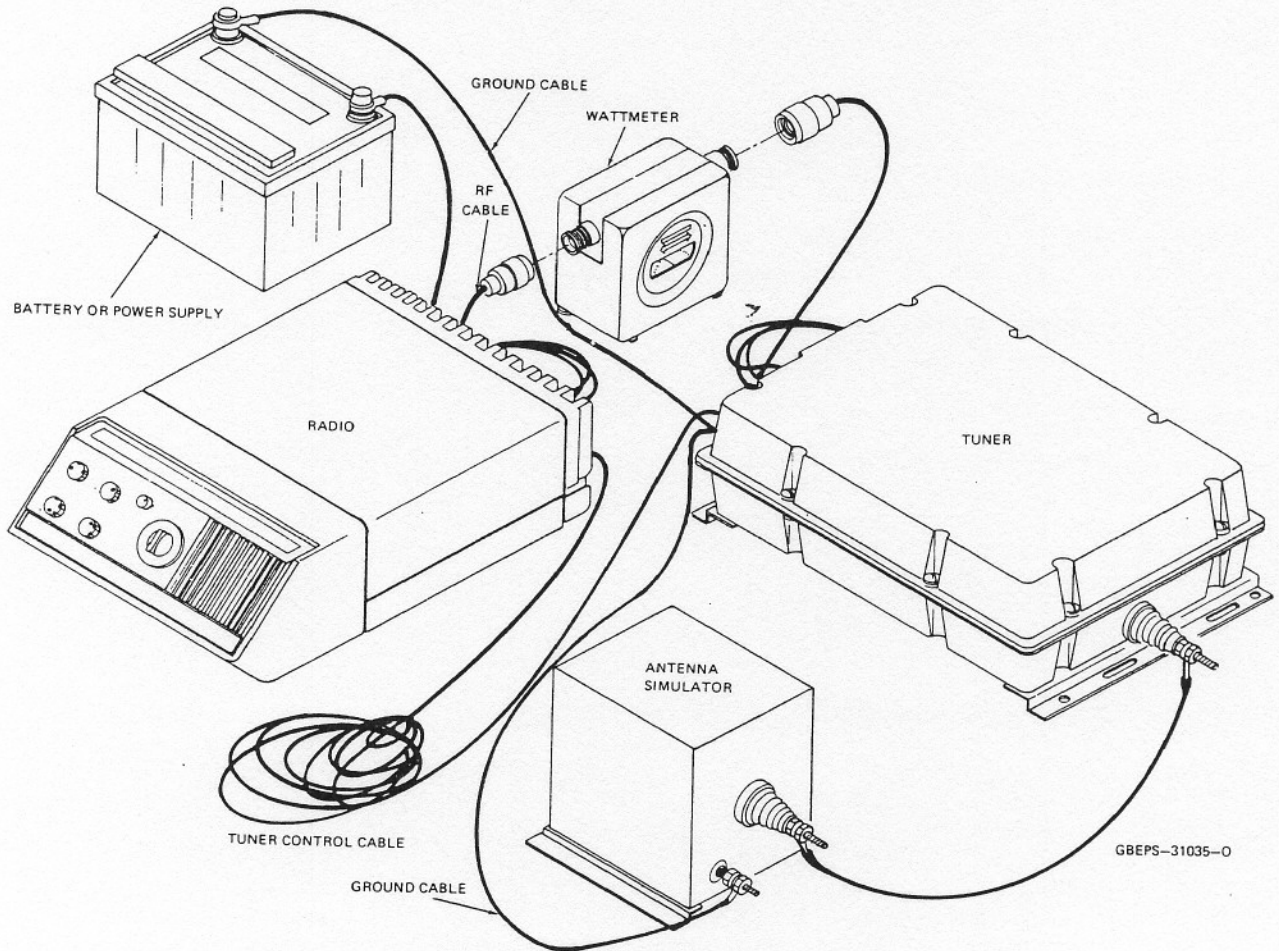

Figure 2. Typical Pre-Operational Check Configuration
the radio system (with the antenna being replaced by an antenna simulator circuit). The recommended set-up is shown in Figure 2.
Step 1. Set up the components of the radio installation as shown in Figure 2.